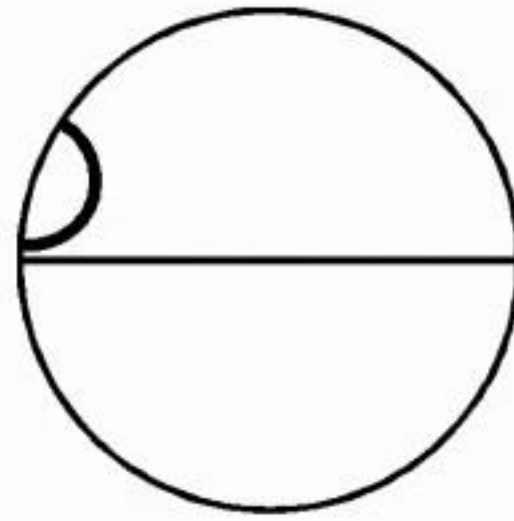

Fig. 8
- F. Fluorescence ring close to leftside. Move slit lamp leftside (Fig. 8).